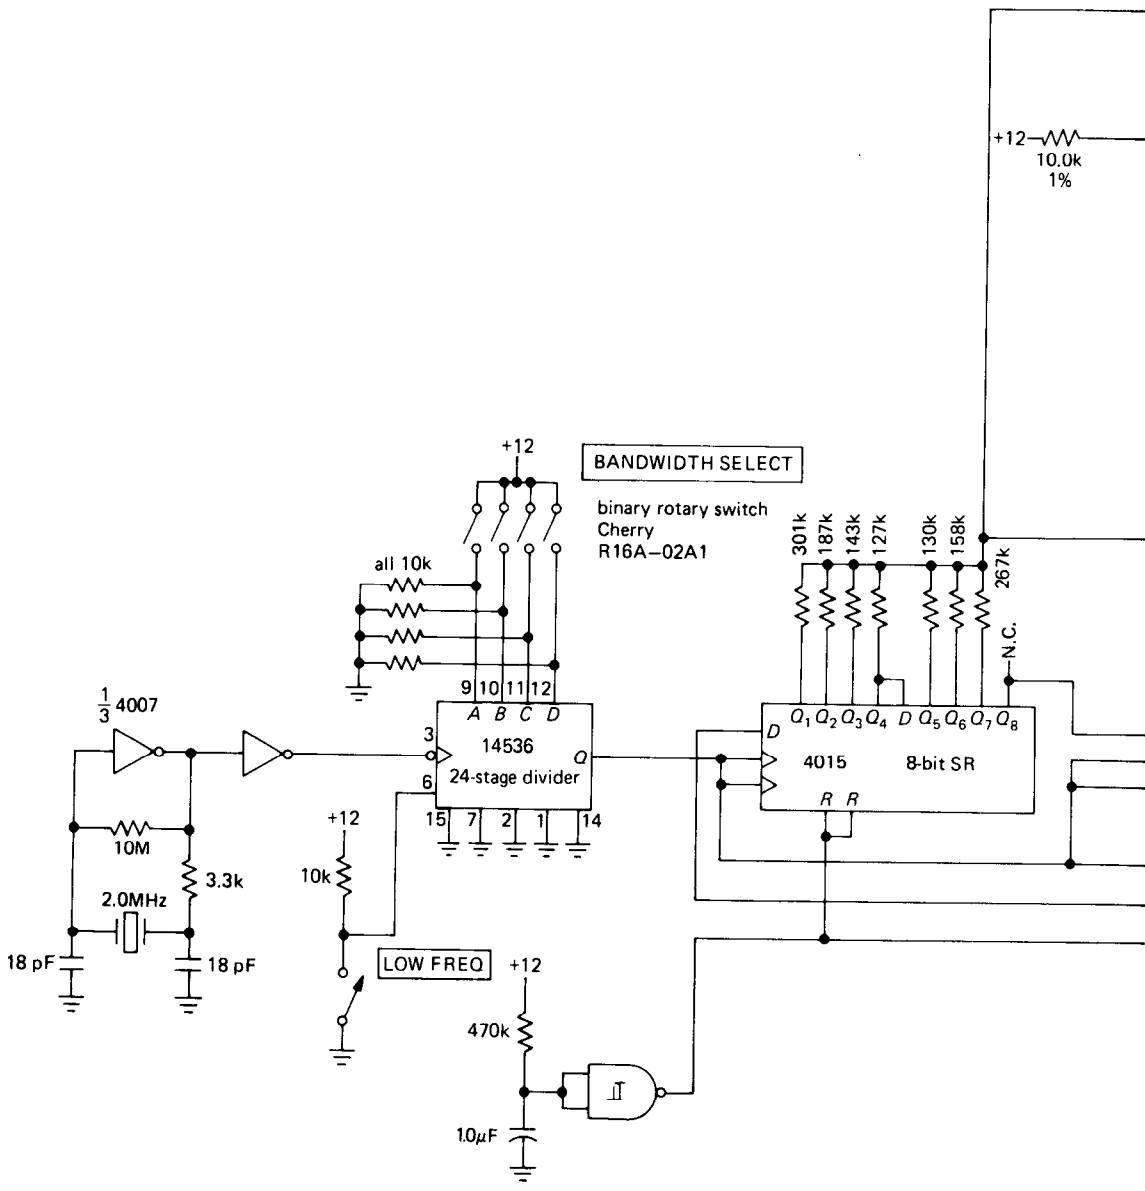

Figure 9.90. Wide-frequency-range laboratory noise source.
The circuit in Figure 9.90 generates pseudo-random analog noise, with bandwidth selectable over an enormous range, using this technique. A 2.0MHz crystal oscillator drives a 14536 24-stage programmable divider, generating clock frequencies going from 1.0MHz down to 0.12Hz by factors going from 1.0MHz down to 0.12Hz by factors of 2. A 32-bit shift register is connected with feedback from stages 31 and 18, generating a maximal-length sequence with 2 billion states (at the maximum clock frequency the register completes one cycle in a half hour). In this case we have used a $(\sin x)/x$ weighted sum over 32 successive values of the sequence. U_1 and U_2 amplify the inverted and noninverted terms, respectively, driving differential amplifier U_3 . The gains are chosen to generate a 1.0 volt rms output with no dc offset into a 50 ohm load impedance (2.0V rms open circuit). Note that this noise amplitude is independent of the clock rate, i.e., the total bandwidth. This digital filter has a cutoff at about $0.05 f_{\text{clock}}$, giving a white noise output spectrum extending from dc to 50kHz (maximum clock frequency) down to dc to 0.006Hz (minimum clock frequency), in 24 steps of bandwidth. The circuit also provides an unfiltered output waveform, going between +1.0 volt and -1.0 volt.
Figure 9.90 cont.
3. Verify that the peak output of the pseudo-random-noise generator (Fig. 9.90) is ± 8.68 volts.